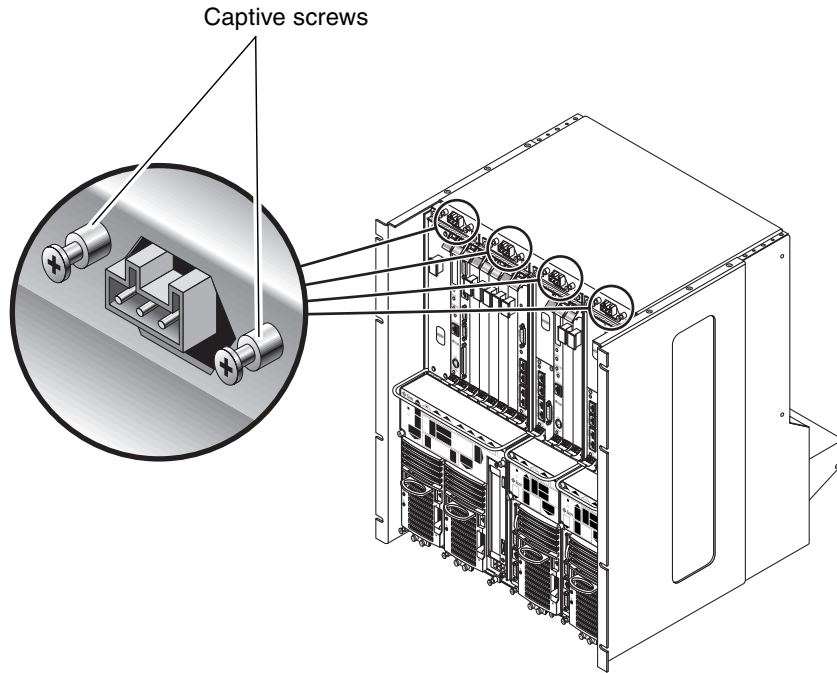

FIGURE 10-11 Loosening the Front-Access DC Cable Screws
2. Insert the other end of the front-access DC cable through the holes at the top of the chassis (FIGURE 10-11).
4. Tighten the two captive screws to secure the cable to the chassis (FIGURE 10-11).